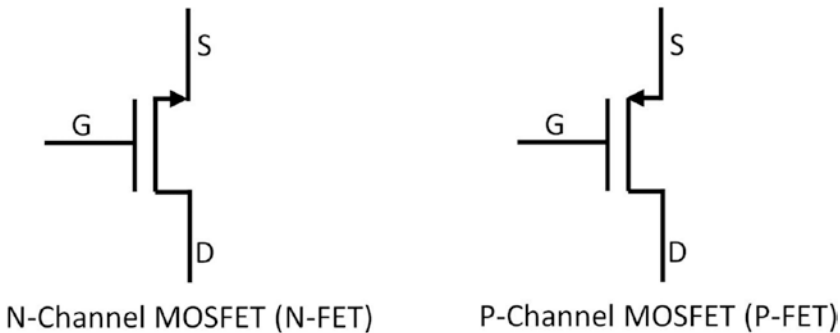

Figure 5-1. MOSFET using arrows to designate the type
One of the most basic elements in an FPGA is MOSFET (Metal Oxide Semiconductor Field Effect Transistor). In the FPGA world, it is usually referred to as a gate. It is like a light switch. It will either allow the current flow (light is ON) or block the current flow (light is OFF), depending on what value it receives, high (1) or low (0). There are two main types of MOSFETs: P-FETS and N-FETS (Figure 5-1).